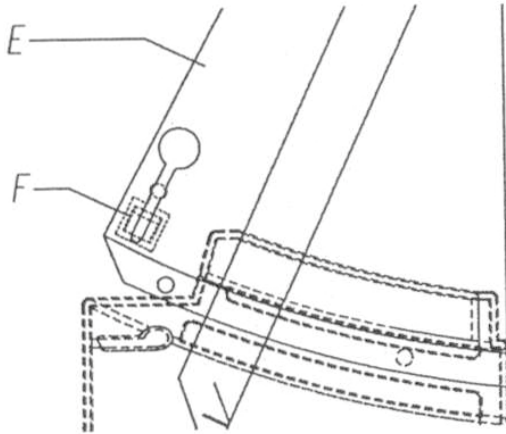

Fig. 5
- Locate the two fixing lugs on either side of the curved sliders (Fig. 5) below.